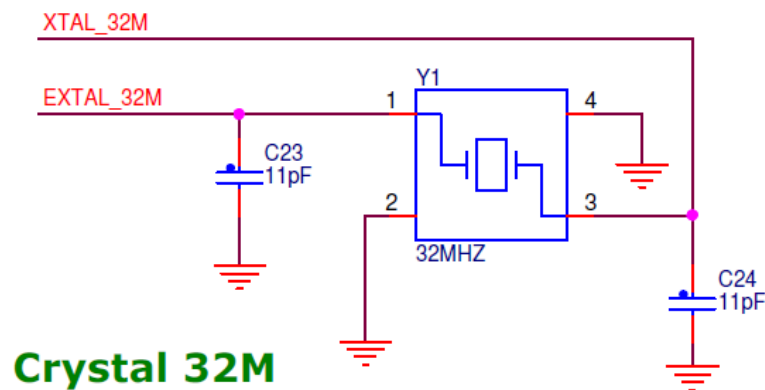

Figure 5. KW01-RCD-RD 32 MHz reference oscillator circuit
- 32 MHz Reference Oscillator: Figure 5 shows the external 32 MHz external crystal Y1. This mounted crystal must meet the MKW01Z128 specifications.